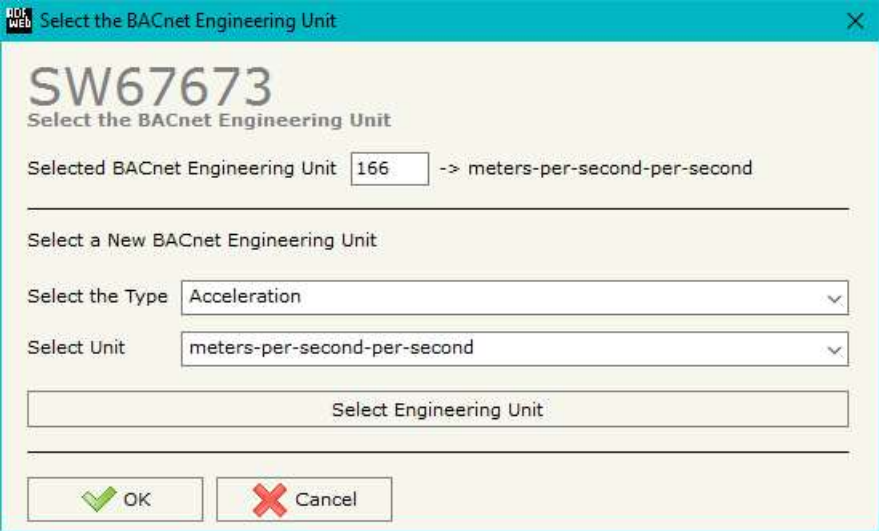

Figure 6: "Select the BACnet Engineering Unit" window
- In the field "**Eng. Unit**", with double click the window "Select the BACnet Engineering Unit" appears (Fig. 6);